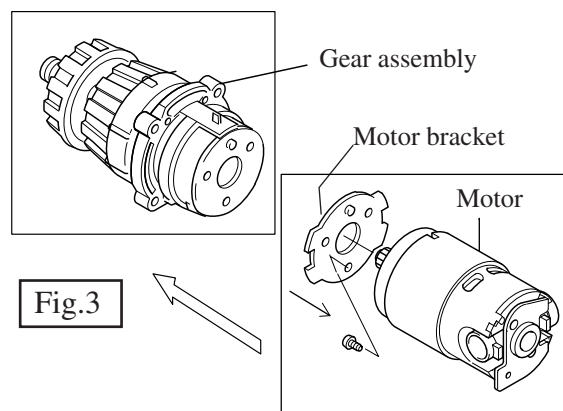

Fig.3A
- 2) Fasten the above motor bracket to motor with screw. See Fig.3A.